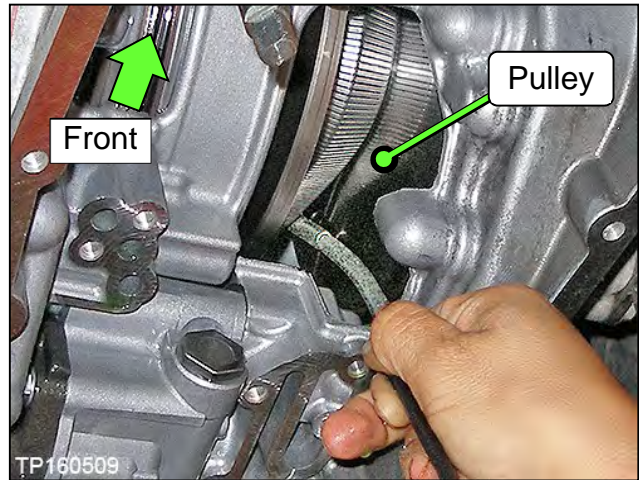

Figure 14
8. Insert the camera lens in the second location, where shown in Figure 14, and then perform step 7 again.